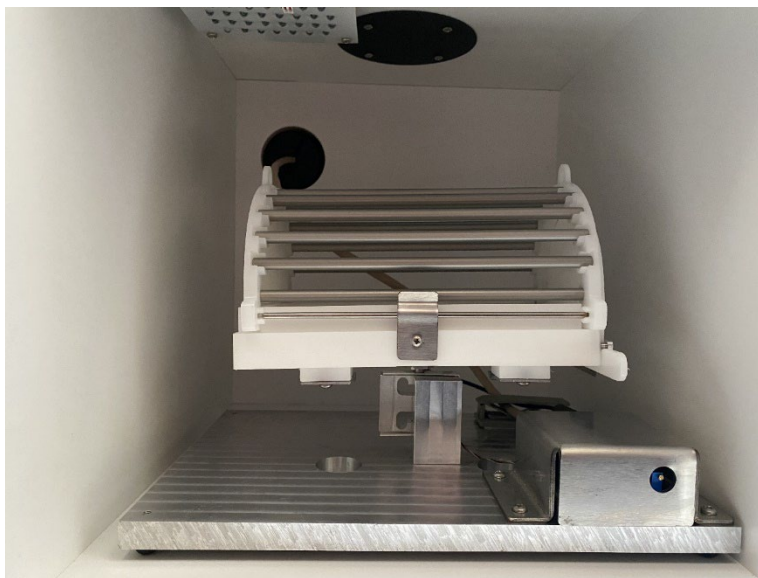

Figure 9 Installing the Restrainer
3. Refer to Figure 9 and install the Restrainer. Slide the Restrainer onto the Load Cell Plate and make sure the clips on the bottom of the Restrainer are securely in contact with the Load Cell Plate.